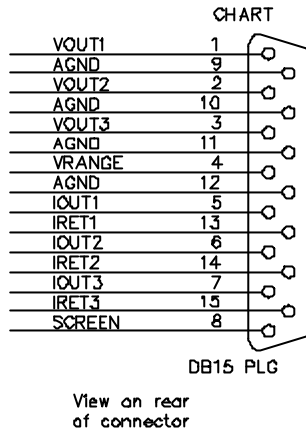

Figure 4 Chart Connections
3.6.2 The connector pin allocations are shown in Figure 4. Not all pins are used.